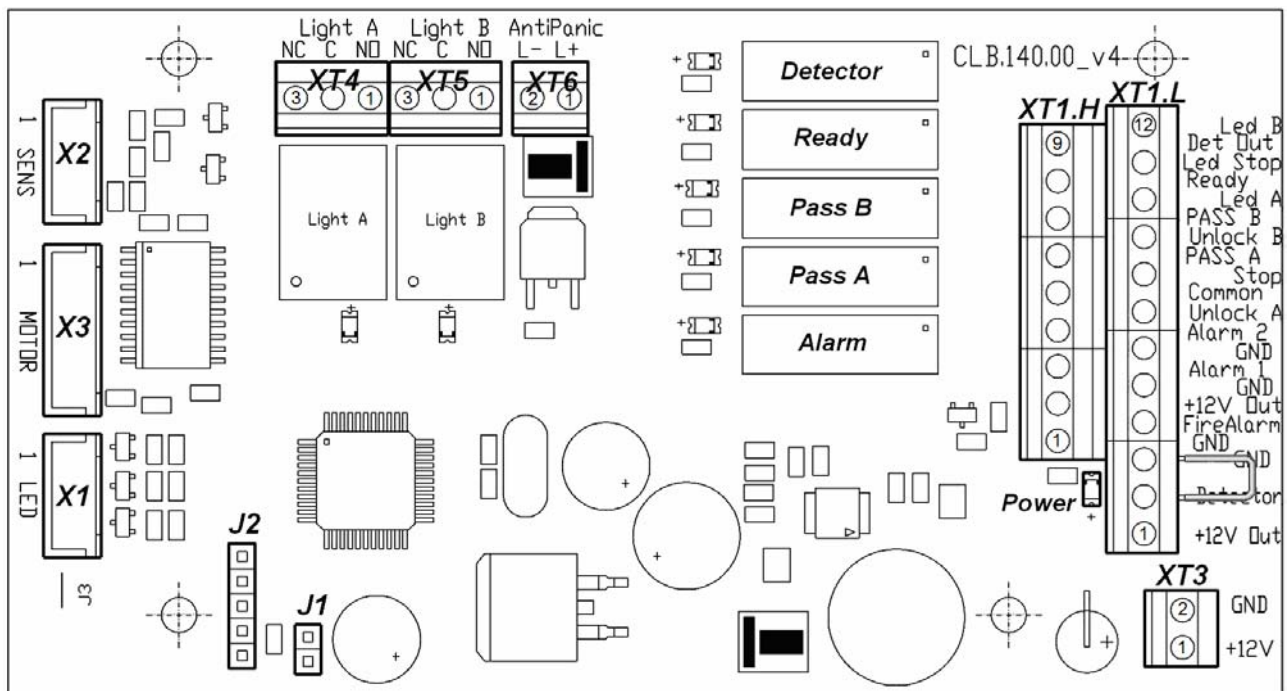

Figure 4. Control Logic Board (CLB)
The CLB (Fig. 4) includes:
Connection of the devices is made in accordance with the connection layout (Fig. 4 and 12) by the multicore cable (14) to the out connector block **XS1** that has contact leads with connector blocks **XT1.L** and **XT1.H** of the CLB.
The CLB relay operation/release is indicated by lighting up/going down of the red test indicators located near the corresponding relays (Fig. 4).
The control mode is set by the jumper on the **J1** connector (the J1 connector location is shown on Fig. 4 and on a label located on the inner surface of turnstile cover (2)): the jumper is fixed — the pulse control mode, the jumper is not fixed — the potential control mode. The jumper is fixed at the factory before the delivery.
The intrusion detector is connected to the **XT2**, connector block, and the siren is connected to the **XT1.H** connector block of the CLB according to the connection layout (Fig. 4 and Fig. 12). There should be normally closed contacts on the intrusion detector.